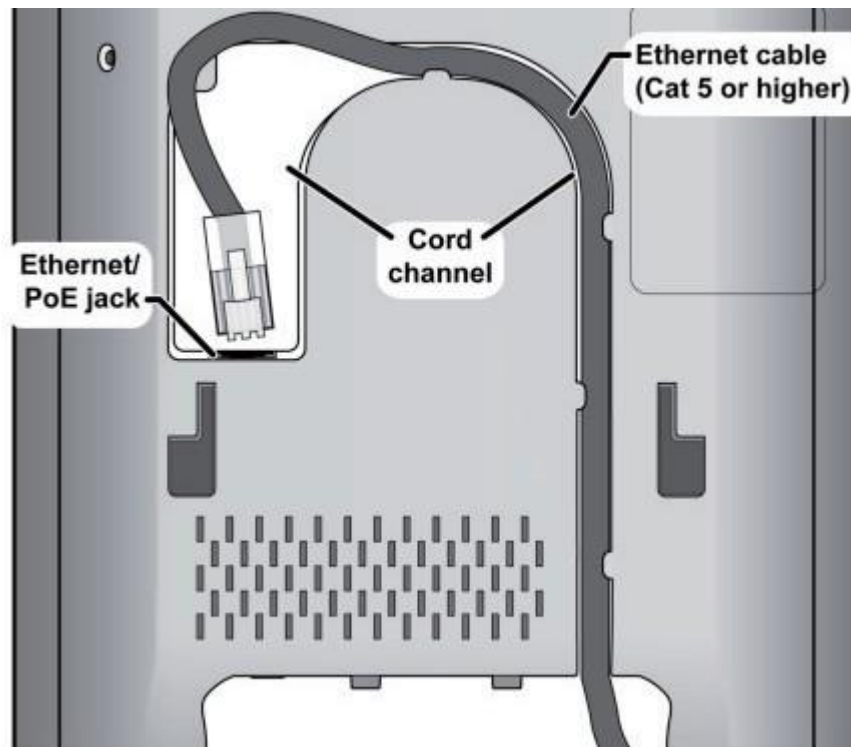

Figure 2-173 Connecting the Base Station
2. Route the cable through the channel as shown in Figure 2-173 Connecting the Base Station.